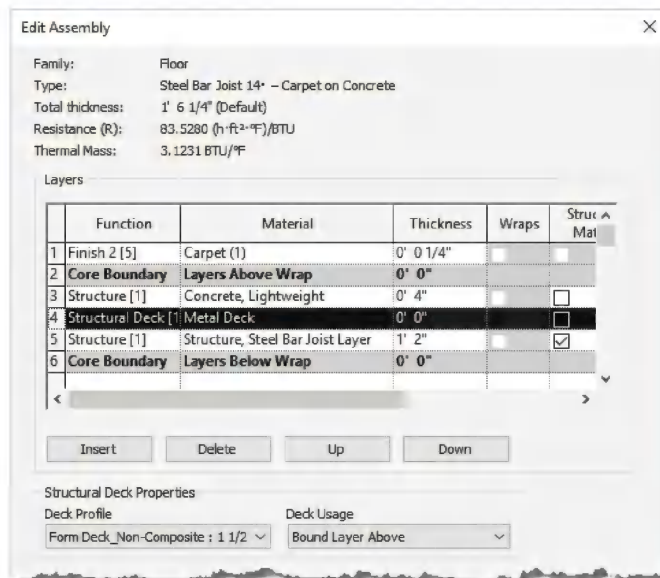

FIGURE 7-1.6 Floor system – edit structure
26. Adjust/add the layers shown in **Figure 7-1.6**.